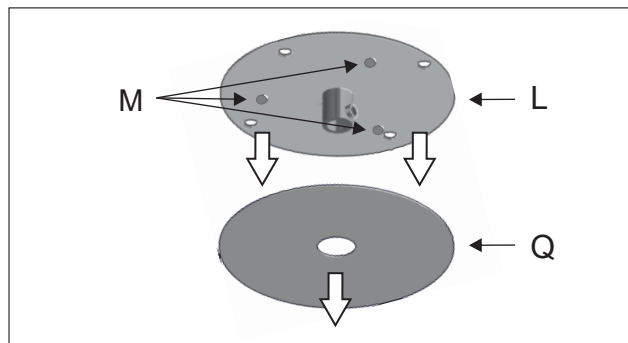

Figure 10
Pull the metal base (Q) to separate it from the mounting bracket (L). Be careful not to lose the magnets (M) that connect the mounting bracket to the metal base. Figure 10